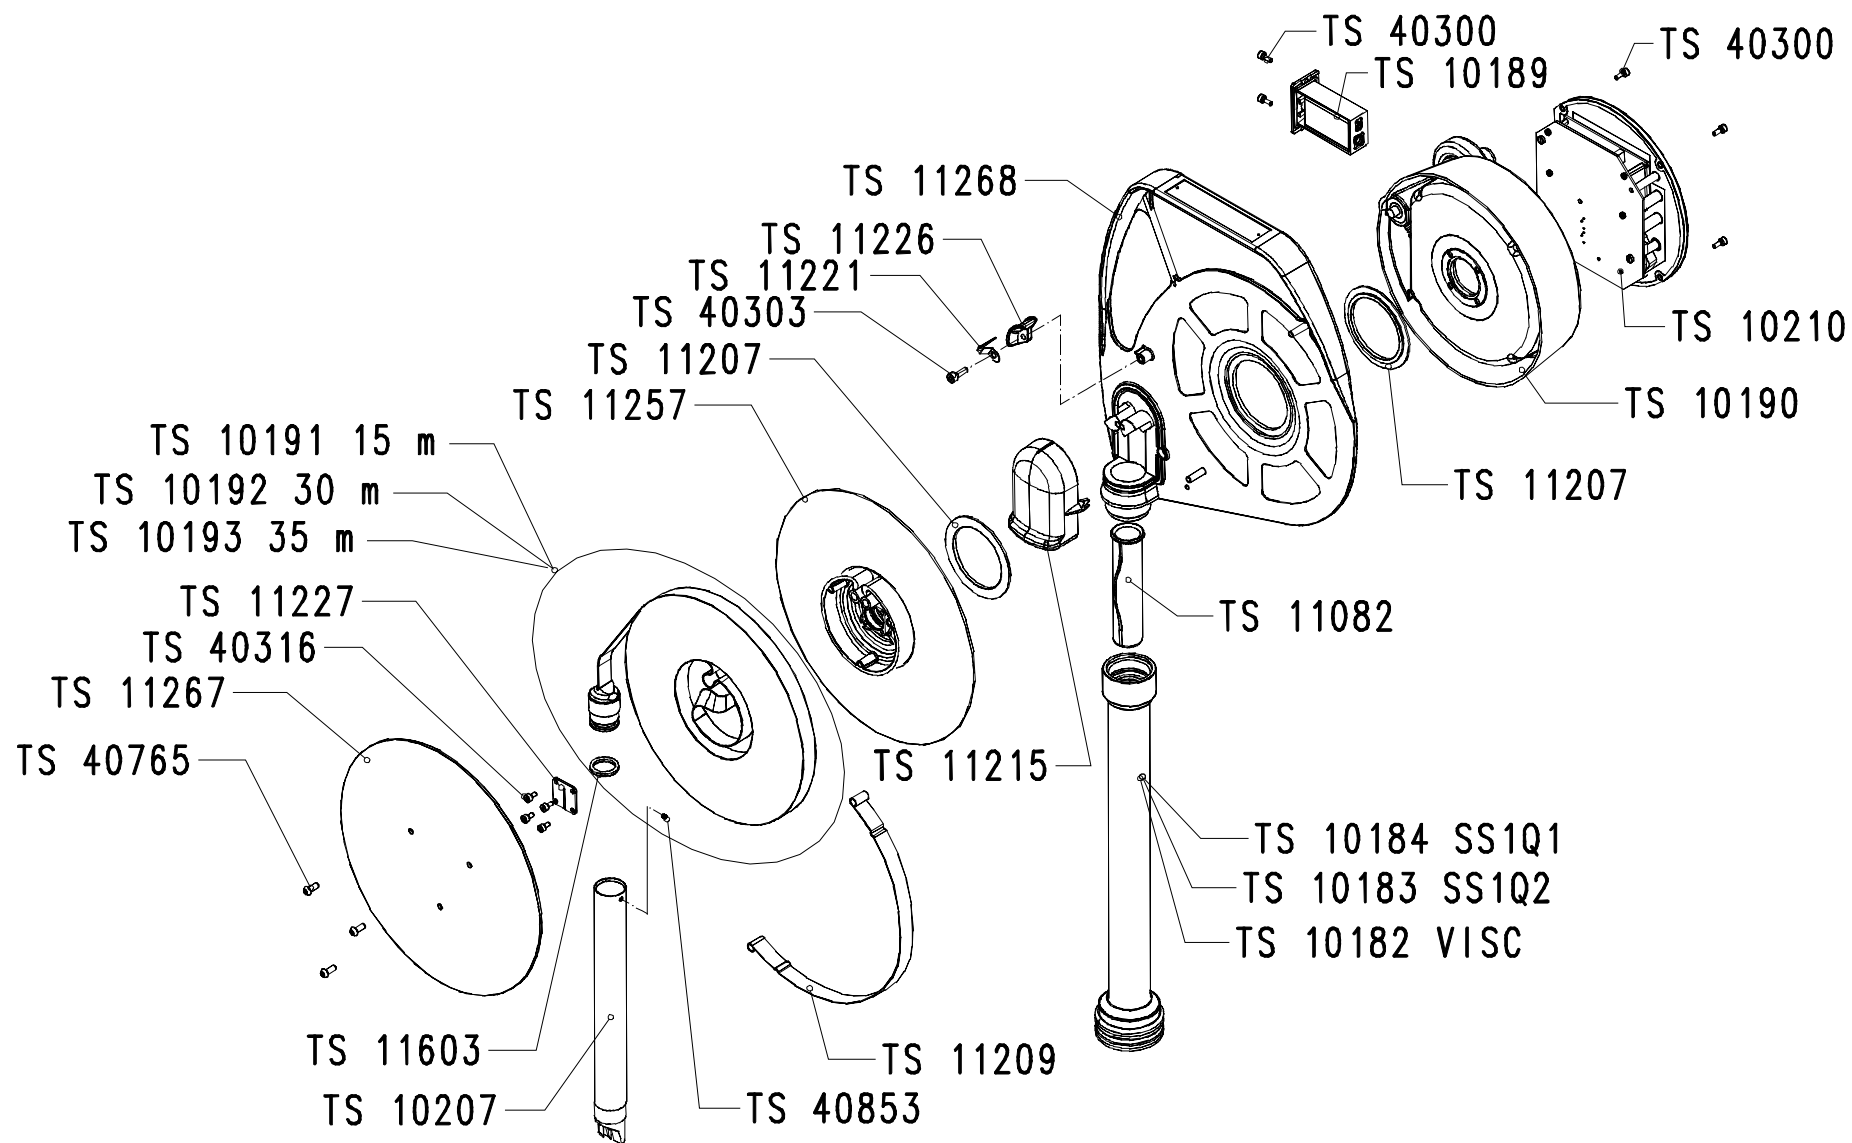

Figure 12-1 : general assembly, list of the main spare parts
- Figure 12-1 : general assembly, list of the main spare parts